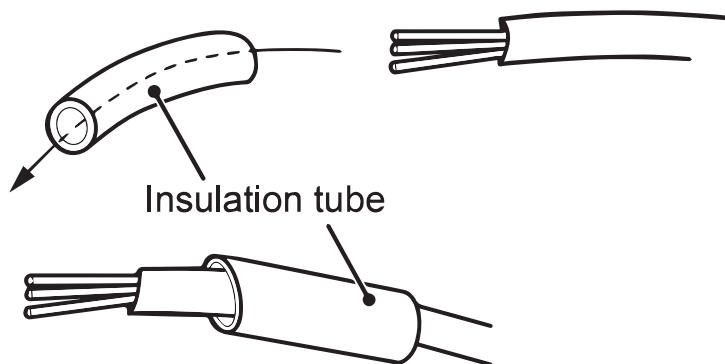

Fig. 2.29
For all terminal wiring (Refer to Fig. 2.29):
5. Lead the thermostat wire and power cord through the insulation tube (as shown in Fig. 2.29).